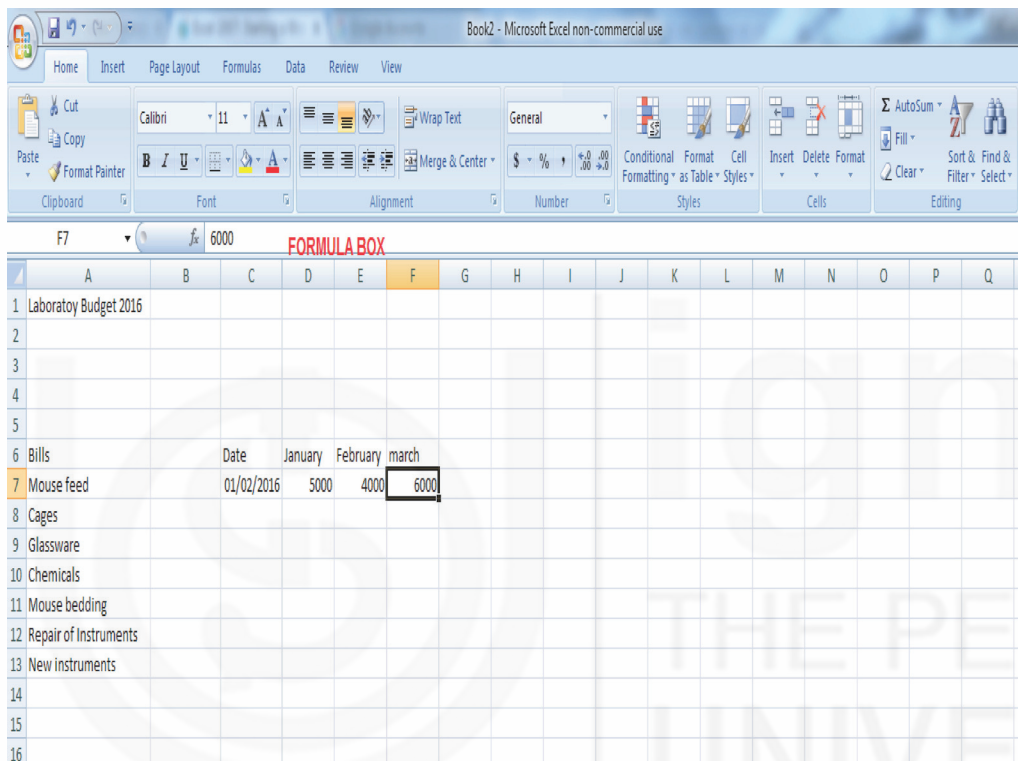

Fig. 14.13: Creating a worksheet.
- ➔ Under Bills type the various categories of bills like Mouse feed, Cages etc as shown in Fig.14.13